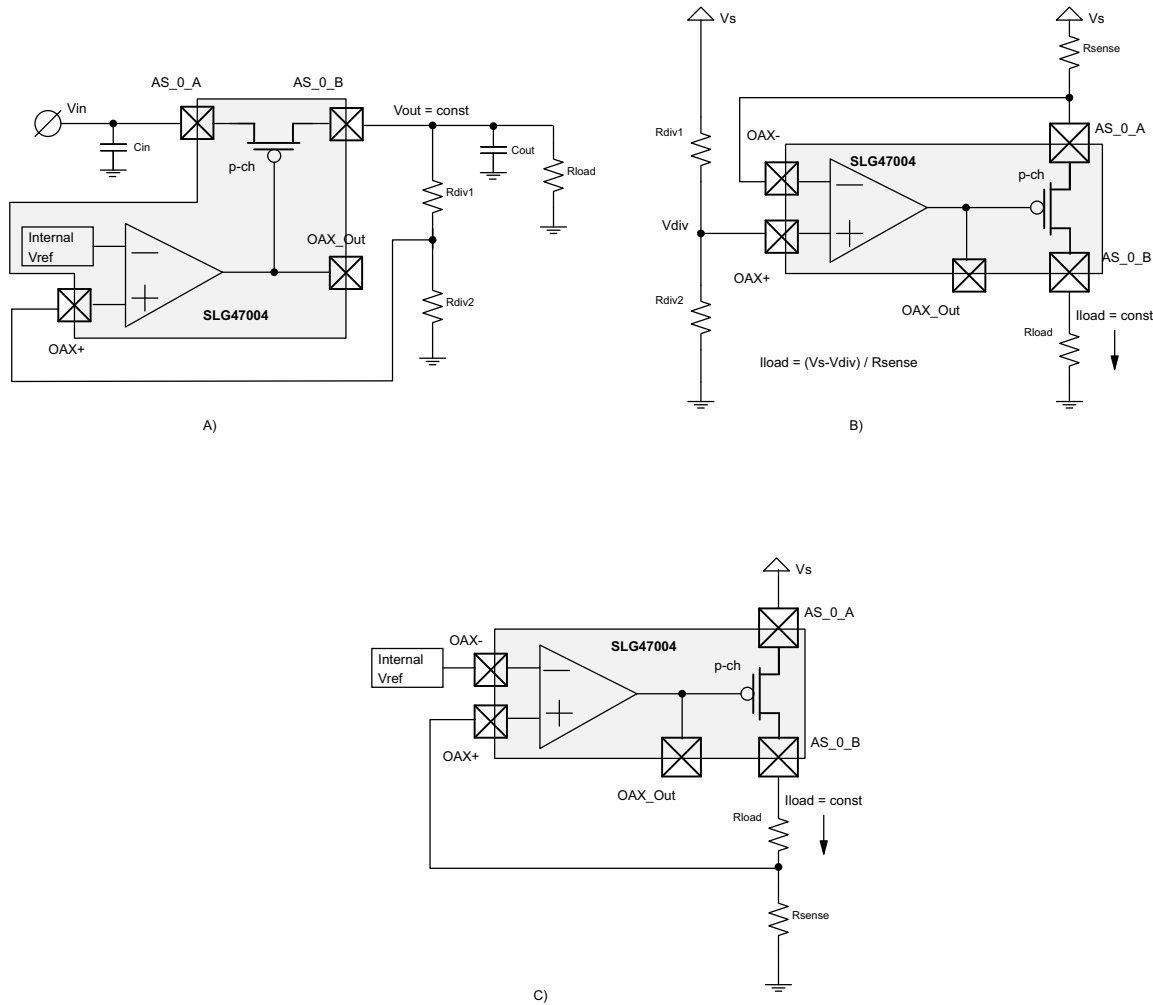

Figure 71: Typical Implementation of Voltage Regulator (A) and Current Sources (B, C)
In this mode, the op amp output drives P-FET (part of Analog Switch). Note that FETs of Analog Switches have different resistances. Analog Switch 0 has R_{ds_PMOS} << R_{ds_NMOS}, while Analog Switch 1 has R_{ds_NMOS} << R_{ds_PMOS}. That's why it is recommended to implement voltage regulator mode using Analog Switch 0. In this mode the op amp output is High when the macrocell is turned off. Figure 71 (A) shows the typical implementation of the voltage source function. Optionally, the
user can use this mode to implement a constant current source with load connected to ground (Figure 71, B, C). Note that op amp must operate in operational amplifier mode (register 750 = 0 for Op Amp0, register 751 = 0 for Op Amp1).